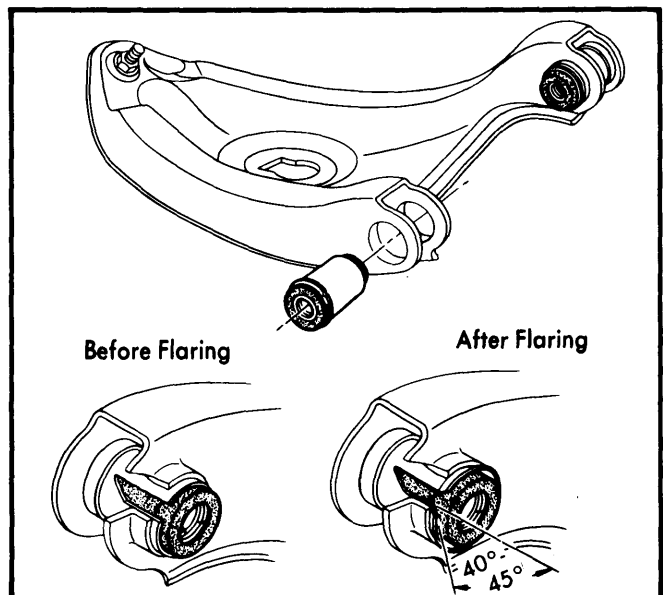
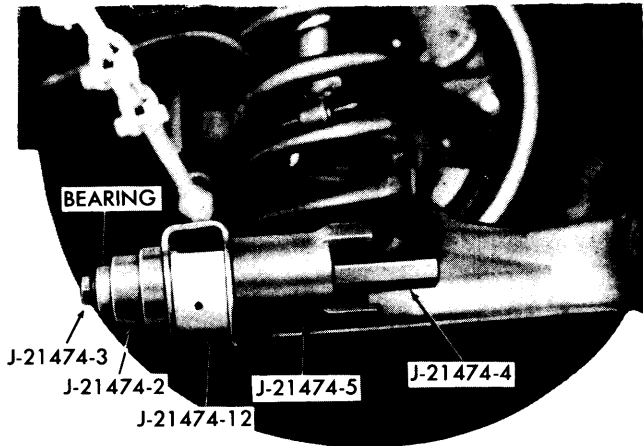

Fig. 6 Lower Control Arm Front Bushing Flaring
Fig. 7 Installing Lower Control Arm Bushing
**Bushing Installation** – Position new bushing and install correct tools as shown in Fig. 7. Using spacer (J-21474-12), turn hex bolt and nut until new bushing is seated. When installing front bushing, use flaring tool (J-23915) and flare bushing (see Fig. 6). Reverse removal procedure to complete assembly.